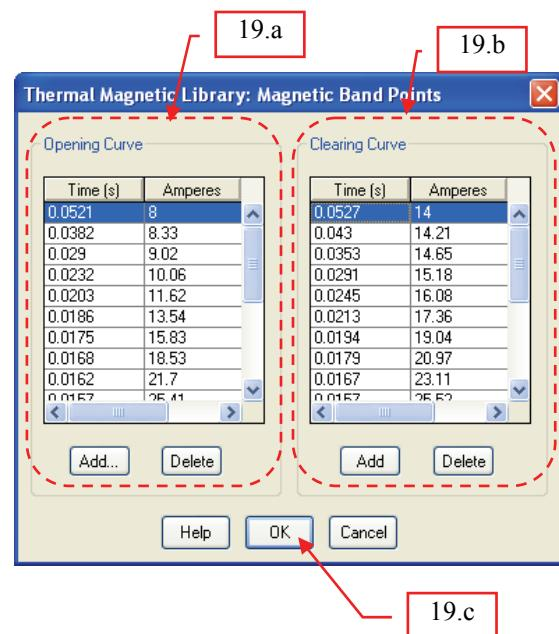

Fig. 22
19. In the “Thermal Magnetic Library: Magnetic Band Points” dialog box, do the following (see Fig. 22):
- Similarly, in the “Clearing Curve” frame (see Fig. 22), enter the 11 points given in column “Curve D” of “Table e: Locus of Points” on page 13.